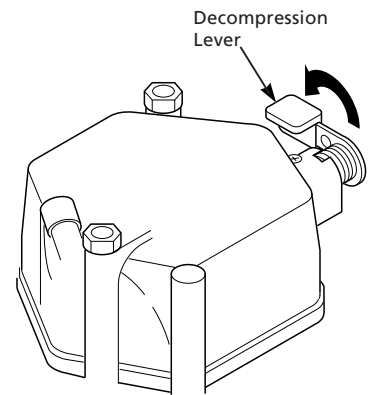

Figure 20 - Decompression Lever
- (1) Slowly pull starter rope until you feel strong resistance. Gently return starter rope to engine.
- (2) Push decompression lever all the way down (See Figure 20). Decompression lever will stay in this position until you turn starting key.